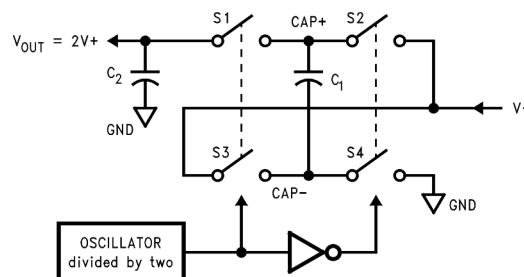

Figure 10. Voltage Doubling Principle
The LM2665 contains four large CMOS switches which are switched in a sequence to double the input supply voltage. Energy transfer and storage are provided by external capacitors. Figure 10 illustrates the voltage conversion scheme. When S_2 and S_4 are closed, C_1 charges to the supply voltage V_+ . During this time interval, switches S_1 and S_3 are open. In the next time interval, S_2 and S_4 are open; at the same time, S_1 and S_3 are closed, the sum of the input voltage V_+ and the voltage across C_1 gives the $2\cdot V_+$ output voltage when there is no load. The output voltage drop when a load is added is determined by the parasitic resistance ($R_{DS(on)}$) of the MOSFET switches and the ESR of the capacitors) and the charge transfer loss between capacitors. Details are discussed in Application and Implementation.
- R_{SW} is the sum of the ON resistance of the internal MOSFET switches shown in Figure 10. (1)